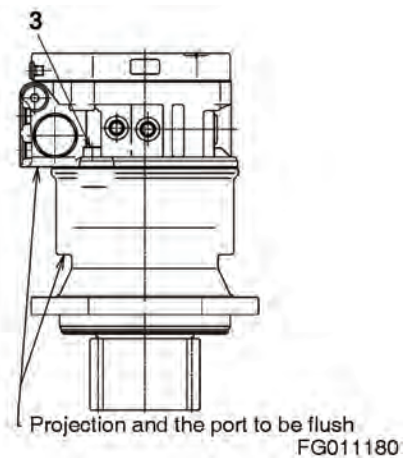

Figure 83
- Place reduction gear assembly on motor assembly and loosely tighten socket head bolt (3, Figure 83), then tighten it to specified torque.